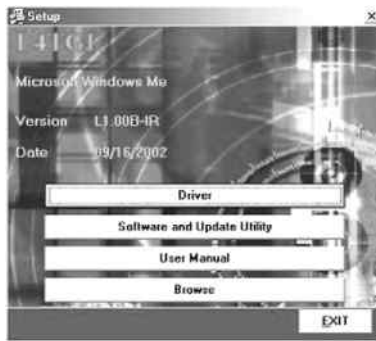

Figure 4.1
2. The Installation wizard will auto run and show the name of the main board on the upper left of the menu (See figure 4.1).
We also provide you some very useful utilities to enhance the experience of your computer. Just like installing drivers for your computer, you can follow the steps for installing driver until the menu of figure 4.1 shows up. Then, please go through the following steps.